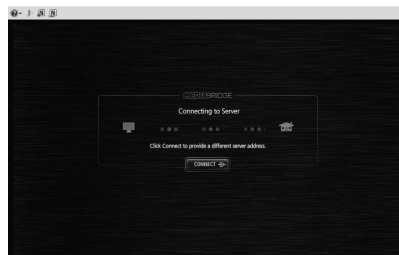

Figure 27
- A connection progress indicator will appear in the Web Browser. Refer to figure 27.